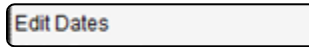
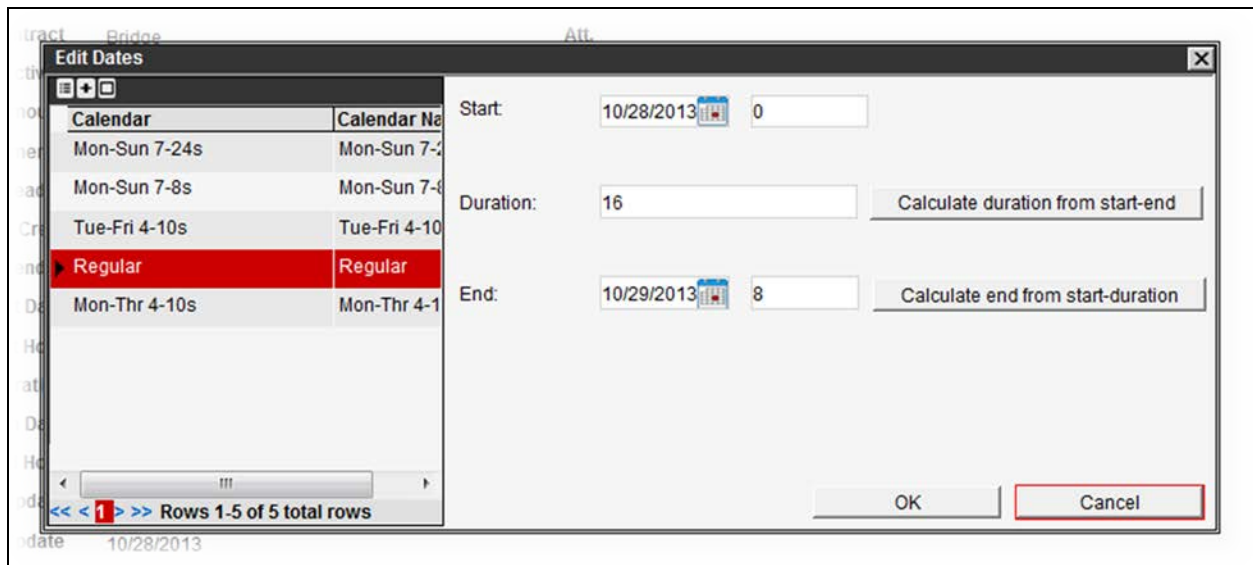

Figure 4-12. Work Order Date Editing Command
Figure 4-13. Work Order Edit Dates Dialog Box
1. Point to the Work Order, and perform the **Edit Dates** function from the menu (Figure 4-12). This command opens the Edit Dates dialog box (Figure 4-13).
TIP! The Edit Dates dialog box (Figure 4-13) shows the Calendar type at left, the current Start hour and day, End hour and day, and Duration. It also provides calculation buttons to assist with deriving the End Date and Hour or the Duration.
2. Perform any of the following options in the Edit Dates dialog box (Figure 4-13):
3. Select **OK** in the dialog box (Figure 4-13) to accept any updates, or **Cancel** to exit.
1. Point to the Work Order, and perform any of the functions listed (Figure 4-12) from the menu in the Work Orders pane, as explained in Table 4-6.